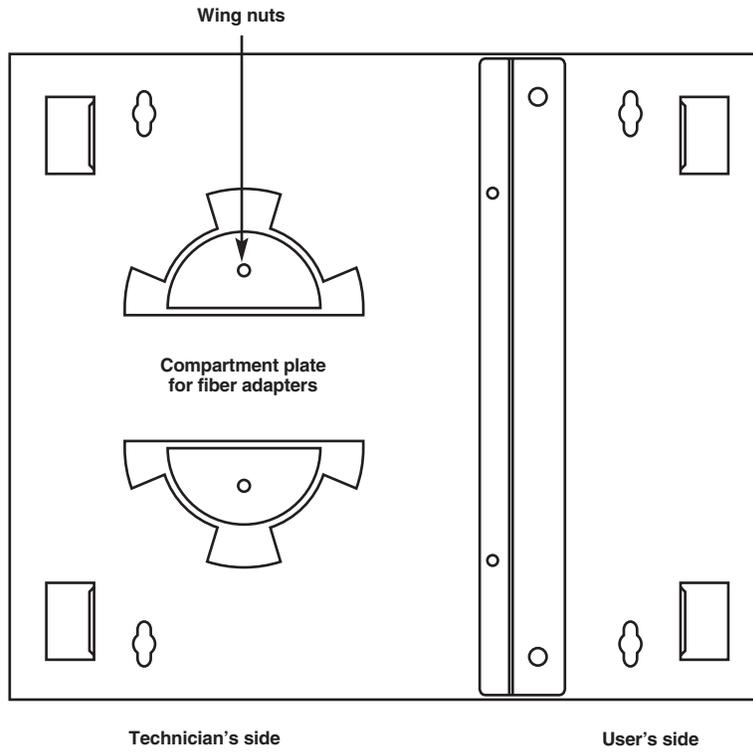
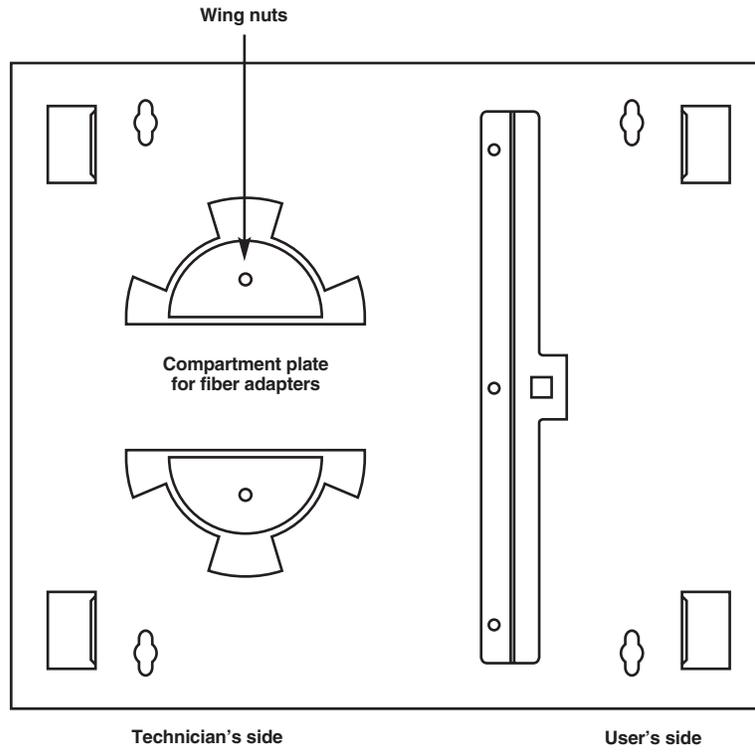

Figure 1. Inside of the JPM401A-R2 cabinet.
Figure 2. Inside of the JPM402A-R2 cabinet.
The Fiber Wall Cabinet, Open (JPM401A-R2, see Figure 1) is ideal for non-secure fiber workgroups. The Fiber Wall Cabinet, Lock Style (JPM402A-R2, see Figure 2) is perfect for secure networks. The lock-style cabinet has two locking compartments, and the open cabinet has two compartments and one non-locking door. The compartments on both models are for a user side and a technician side. And both accept up to four standard or high-density adapter panels with connectors (part numbers JPM404A-R2–JPM405A-R2, JPM408A-R2–JPM412A-R2, JPM415A-R2–JPM416A-R2, and JPM420A–JPM421A). Install the adapter panels on the compartment plate of the cabinet.
These compact cabinets are used to terminate up to 48 fibers, and they easily mount on a wall. The cabinet's user side is designed for smooth and easy access for patch cords. The cabinet's rugged metallic housing is made of heavy gauge steel with baked powder coating finish. As shown in Figures 1 and 2, the cabinet accommodates outside plant cable entry in the technician's compartment from top left or bottom left. And it's sealed with thin membrane rubber grommets for cable entrance holes to keep out insects and prevent dust from settling inside.
1. Open the cabinet's doors (see Figures 1 and 2 for the cabinets' inside view) and use a screwdriver to attach the cabinet to a wall with the four included #9-18 x 1.25" screws. Or, use your own hardware to mount the cabinet on a block wall.